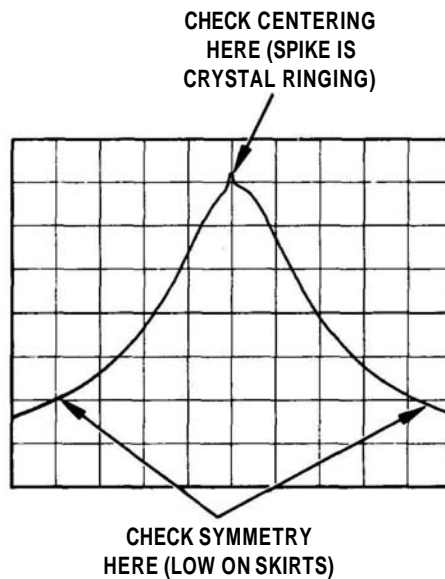

FIGURE 5-7. ADJUSTING CRYSTAL SYMMETRY AND CRYSTAL CENTERING
13. Adjust front-panel **TUNING** control to center **bandpass** spike (Figure 5-7) on the CRT display.
14. Adjust **A13C38 SYM** and **A13C54 CTR** for a centered and symmetrical bandpass as shown in Figure 5-7. Adjust **A13C54 CTR** for minimum signal amplitude.